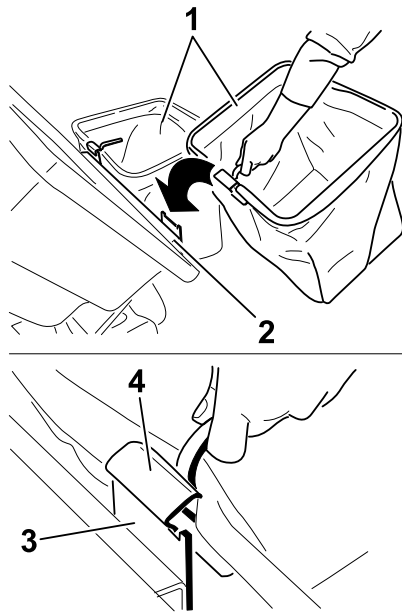

Figure 24
7. Lift the bagger top and install the bags by sliding the bag frame hooks onto the retaining brackets (Figure 24).